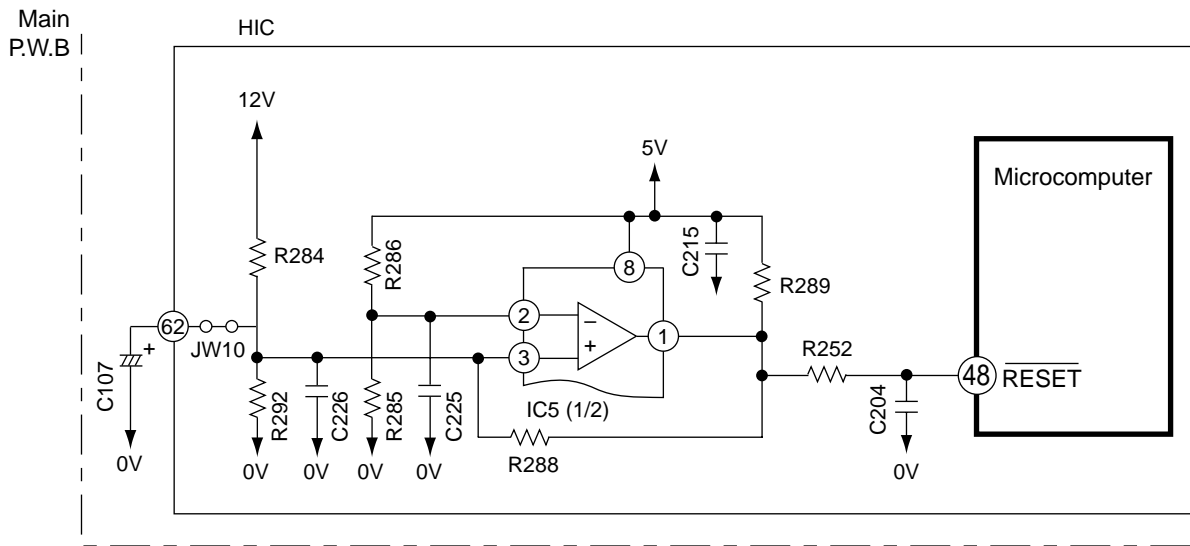
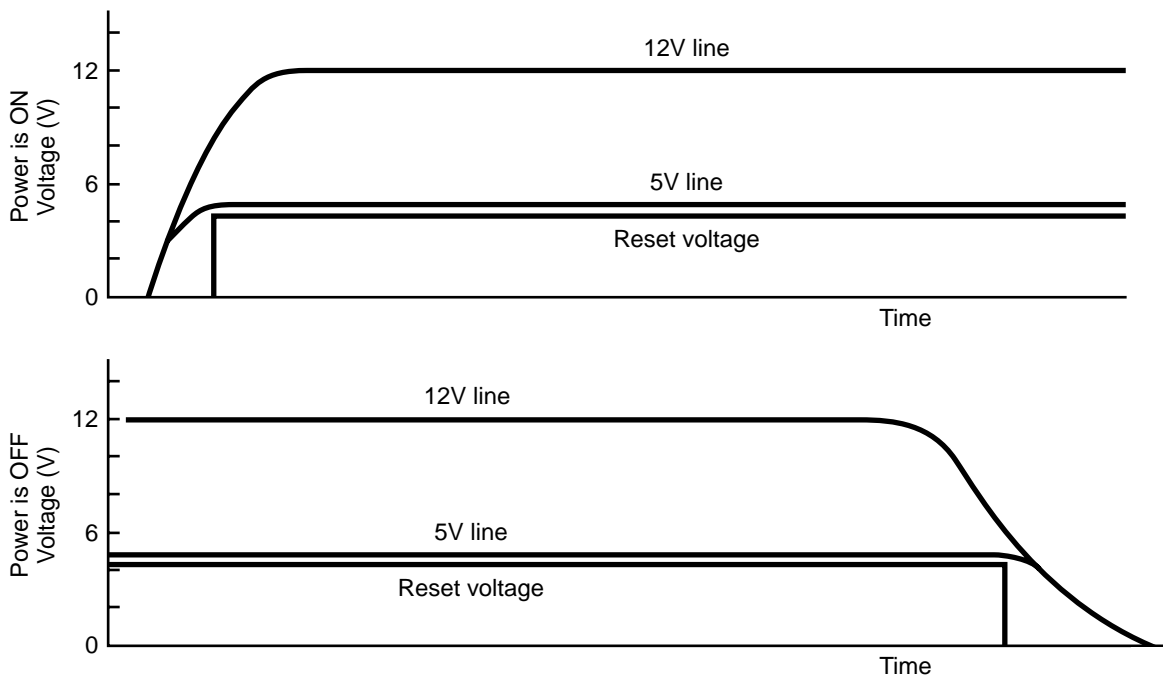

Fig. 10-1
Fig. 10-2
- Fig. 10-1 shows the reset circuit and Fig. 10-2 shows waveform at each point when power is turned on and off.